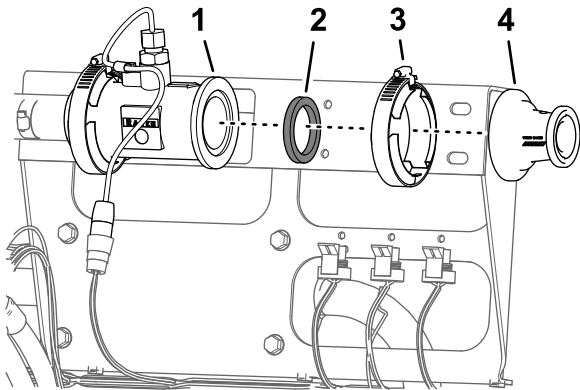

Figure 72
- Remove the flange clamp 51 mm (2 inches) and gasket 38 mm (1-1/2 inches) that secure the flange of the adapter to the flange of the flow meter (Figure 72).